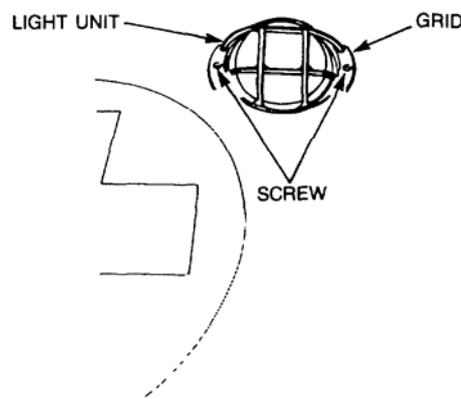

Figure 11 Scan Light Protective Grid Removal
- a. Remove the three screws securing the protective grid to the module (refer Figure 11).
- b. Remove the three screws securing the protective grid to the module (refer Figure 11).